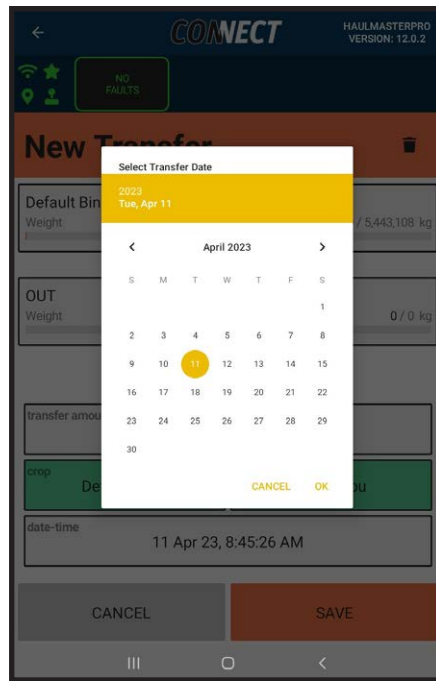

FIG. 75 TRANSFER DATE
9. Touch Start Date-Time and End Date-Time to edit their times. See "FIG. 75 Transfer Date" and "FIG. 76 Transfer Time" for date-time instructions.